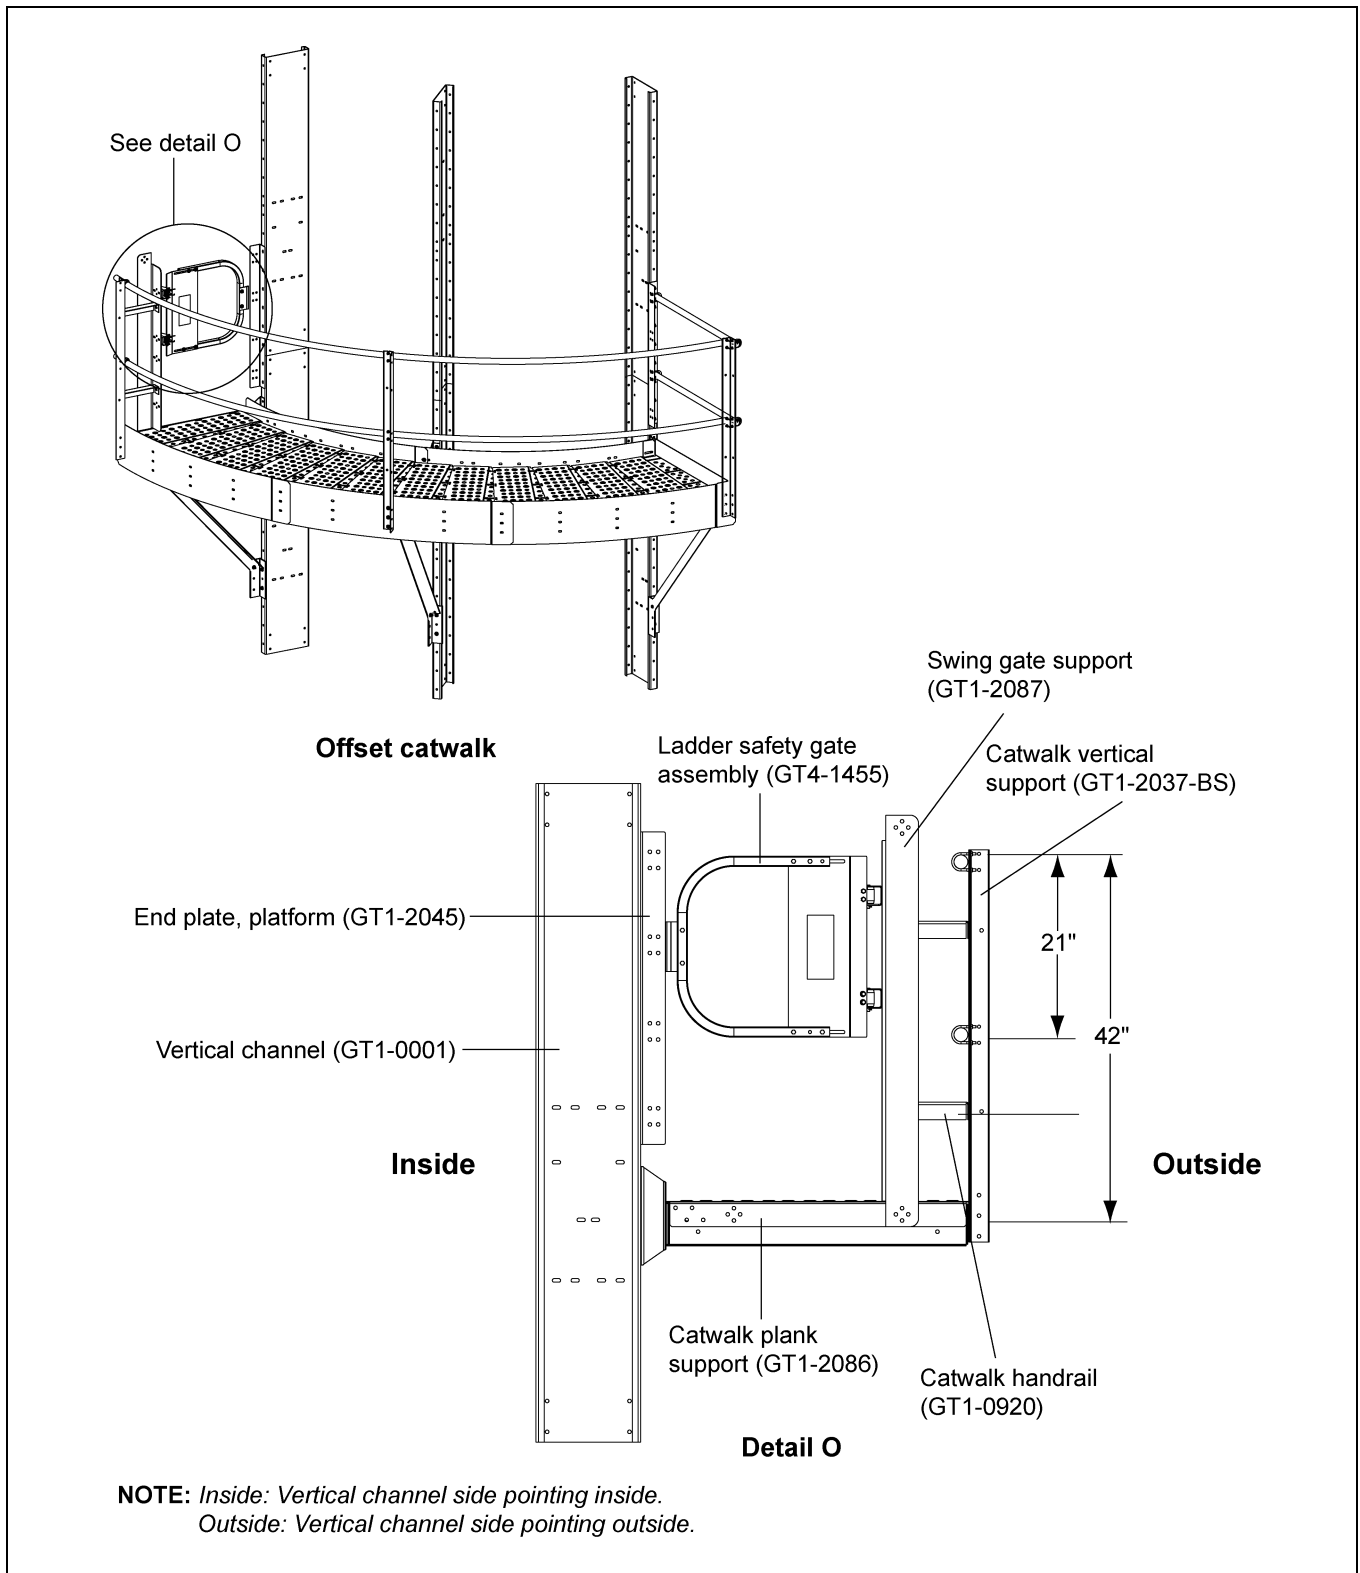

Figure 6Y Offset Ladder Safety Gate Assembly to Swing Gate Support (GT1-2087)
3. Install the ladder safety gate assembly (GT4-1455) to the swing gate support (GT1-2087) using 3/8"-16 x 1" JS grade 8 or grade 8.2 bolts (S-7485) and 3/8"-16 ZN grade 5 nuts (S-968). The distance between the plank and handrail is 42". (See Figure 6Y below and Figure 6Z on Page 66.)